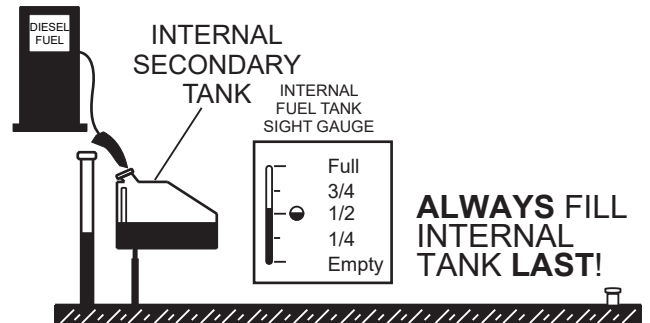
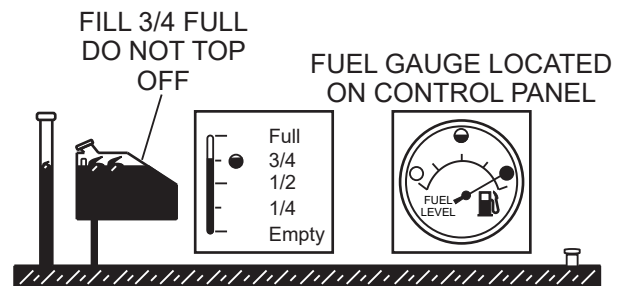

Figure 40. Filling Internal Secondary Fuel Tank
Figure 41. Full Fuel System
4. Once the trailer tank is full, the secondary, internal tank can be filled (Figure 40). Notice how the level rises inside the trailer filler tube when the internal tank is filled. Figure 41 illustrates a full fuel system.